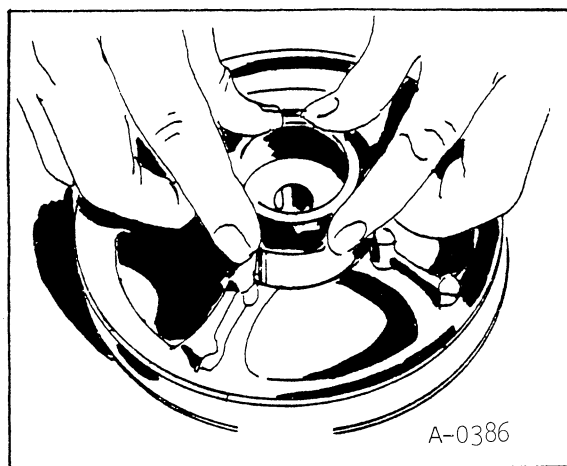

Figure 91
- c. The oil seal in the pulley should be replaced. See *Figure 91*.
- e. Tighten item 10, retaining nut securely. Do not overtighten—stripped threads could result.